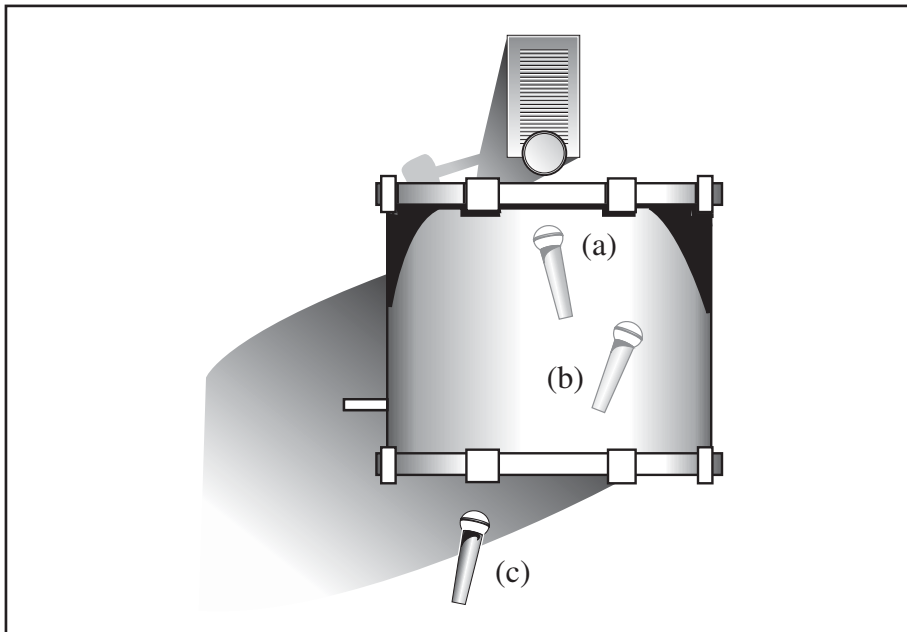

FIGURE 4.2
- **Head space.** Different microphone placements will result in vastly different kick drum sounds. The best way to find the perfect spot is to listen in the control room while your assistant moves the microphone around. As the drummer plays the kick drum, you listen for the best spot. When you hear it, tell the assistant to stop. That is the best starting point. A combination of these may work best but, if one microphone is on the beater side aiming out, press the phase button. Figure 4.2 shows a microphone: